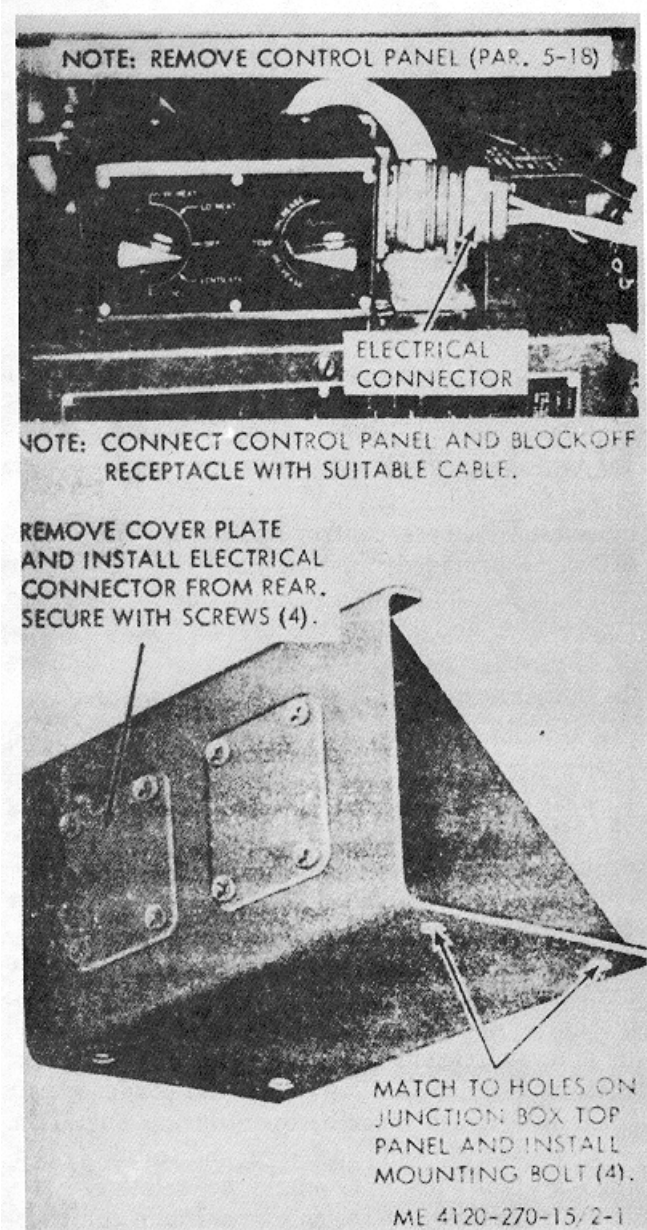

Figure 2-1. Remote control connection installation
b. Blockoff Plate. The blockoff plate is provided for installation when the controls are removed for remote control operation. The block-off plate provided must be used so that no air will enter the lower compartment. Refer to figure 2-1, and install the blockoff plate.